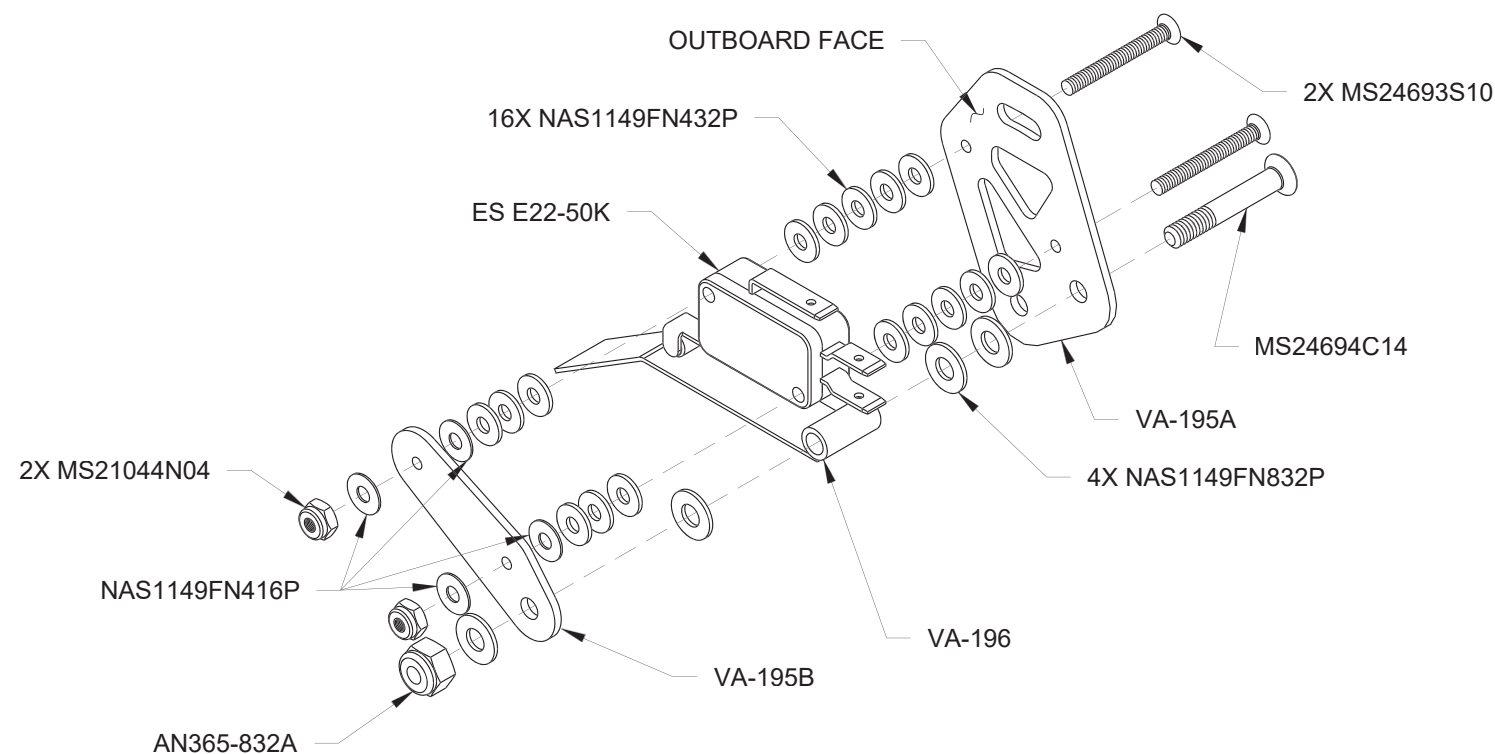

FIGURE 1: STALL WARNING SUBASSEMBLY
Machine countersink the two holes on the inboard face of the VA-195A for the the flush head of a #4 screw. See Figure 1.
Machine countersink this hole in the mount plate on the inboard side for the flush head of a #8 screw. See Figure 1.
Step 4: Assemble the Stall Warning Subassembly as shown in Figure 1.